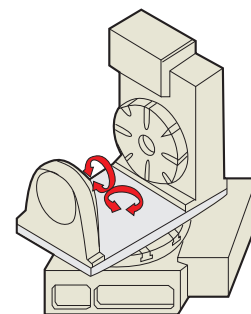

Fig.1
■ To avoid interference, the motor is mounted on top side of table for horizontal M/C and special purpose machine. (Fig.1)